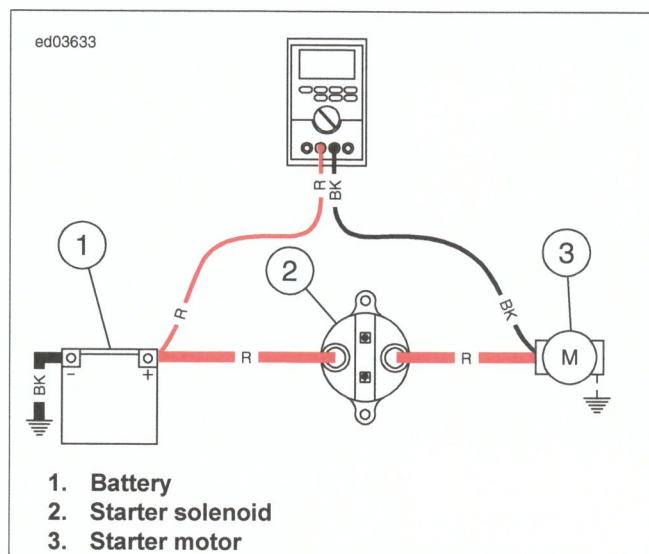

Figure 1-8. To Starter Terminal
1. See Figure 1-8. Disconnect the fuel pump connector [86] to prevent the engine from starting. Connect the red meter lead to the positive battery post. Connect the black meter lead to the battery power starter post on the starter and observe the meter reading. Crank the starter and observe